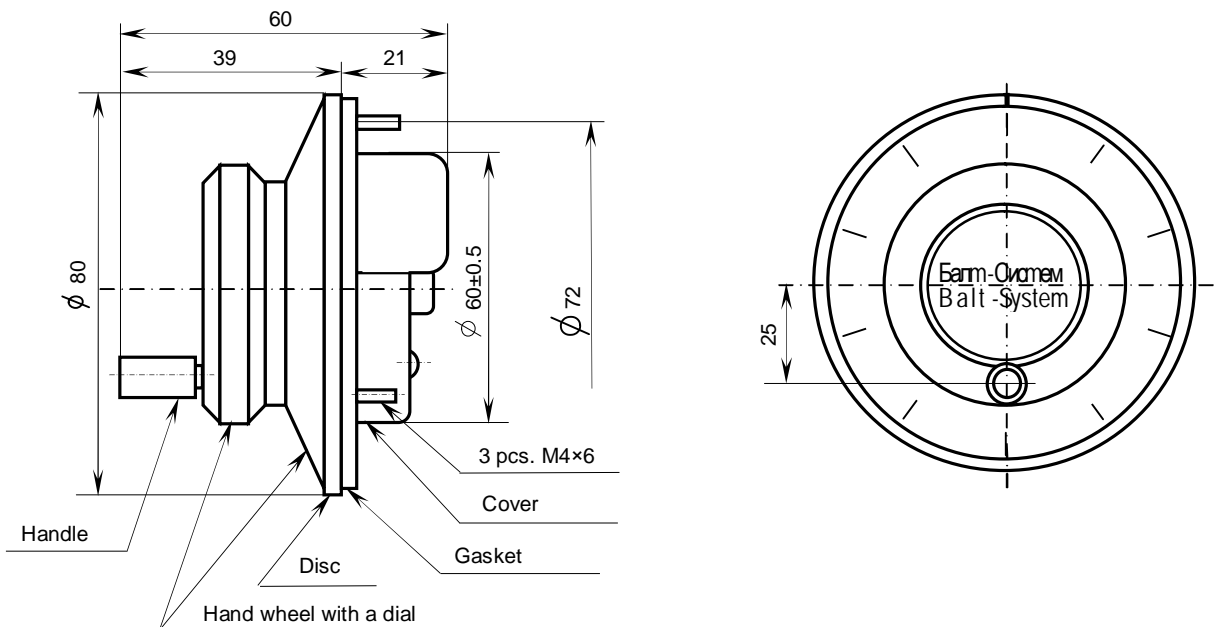

Figure C.3 – The Overall Dimensions of LGF-12-003B-100 Hand Wheel
13.2.2.1 The overall dimensions of the hand wheel LGF-12-003B-100 are shown in Figure C.3. Mechanically, the hand wheel is of a round shape. There is a movable metal small-size wheel on the front side of this hand wheel, which has a calibrated scale of 100 divisions. The small wheel has a handle which makes it possible to rotate it both in the clockwise direction (+), and in the anti-clockwise direction (-). The stationary metal disc has a black hairline signifying the beginning of readings. There is a round label with the logo of the company **Balt-System** in the centre of the hand wheel.